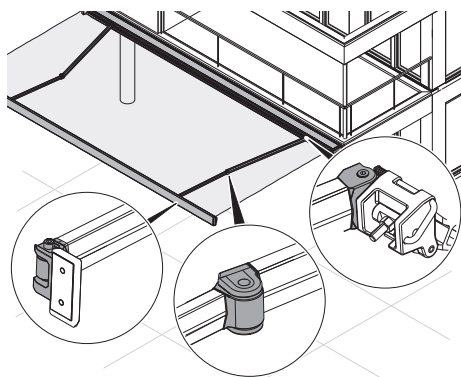

Fig. 28: Check the joints
1. Check the mounting brackets (fig. 28/1). The brackets must be flat and firmly fastened to the base surface.